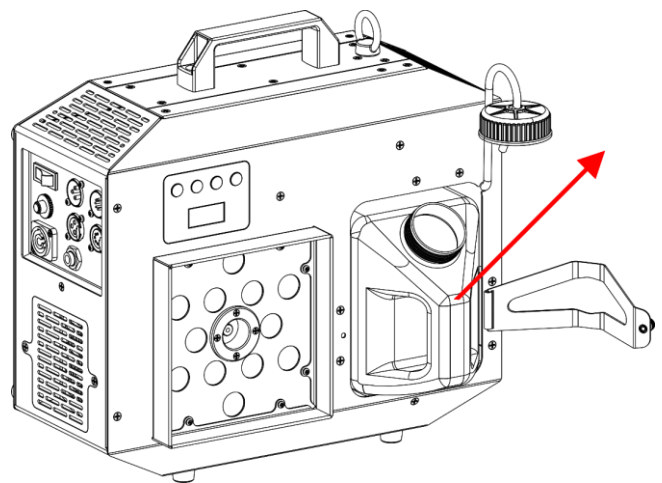

Fig. 09
- 04) Take out the **fluid tank (02)**, as shown in Fig. 09.